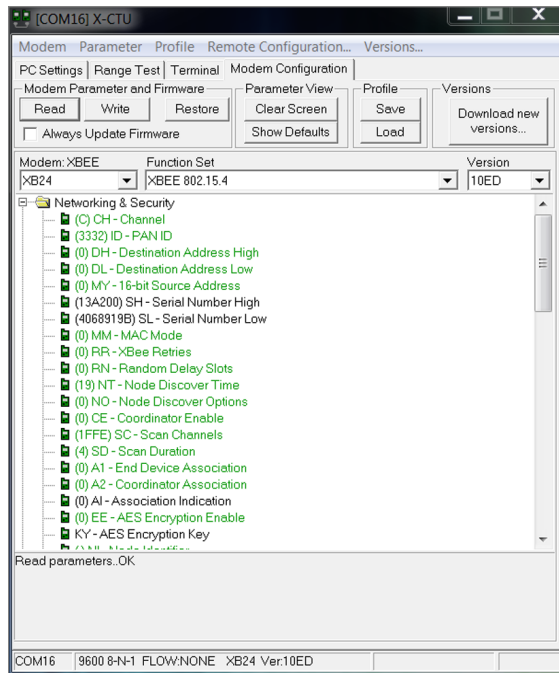

Figure 11-10: X-CTU modem configuration
3. Navigate to the Modem Configuration screen and click the Read button to display all the available configuration options on your XBee and what they are currently set to. The result should look something like Figure 11-10.